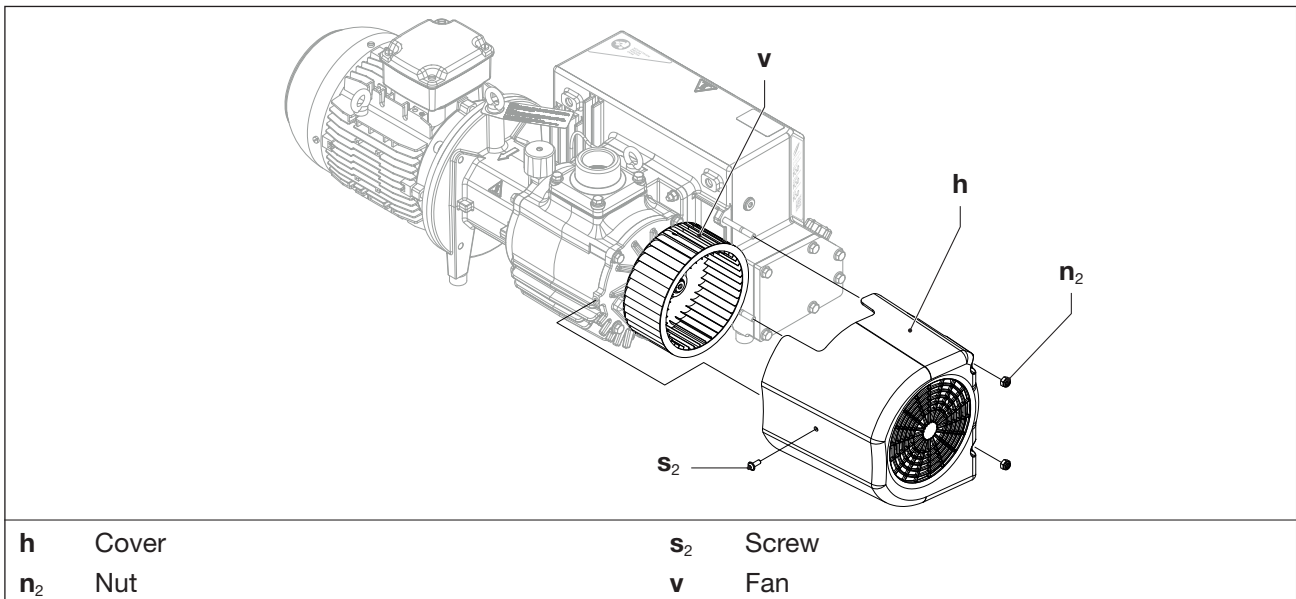

Fig. 9 Fan
- Release a screw (Fig. 9/s2) and two nuts (Fig. 9/n2) on the hood.
- Remove the hood (Fig. 9/h) from the pump.
- Clean / blow off the fan (Fig. 9/v) and check it for damages. Operate the fan only if it is in good order and condition.
- Clean / blow-off the ventilation slots on the hood (Fig. 9/h).
- Push the hood back onto the pump and fix it using the screw (Fig. 9/s2) and the nuts (Fig. 9/n2). Tightening torque: 5 Nm